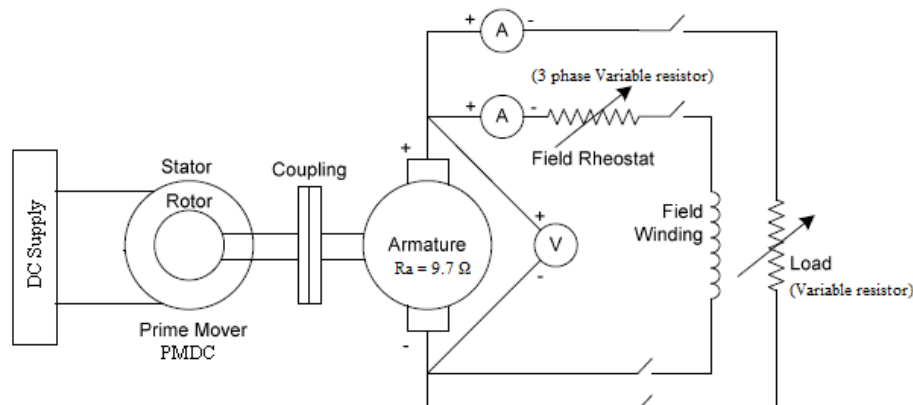

Figure 5.2: Circuit Diagram for Load Characteristics
The circuit diagram for Load Characteristics is shown in Figure 5.2
1. Make the connections as shown in Figure 5.2.